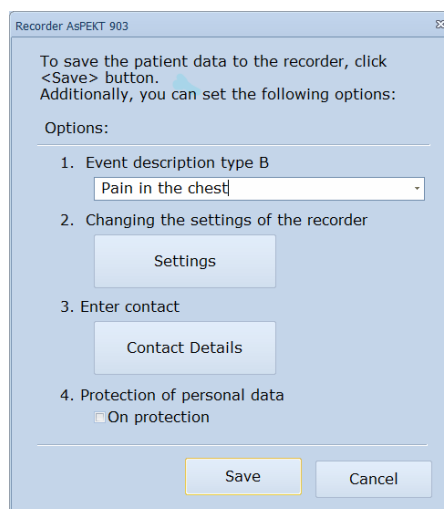

Figure 14. AsPEKT 903 Configuration
- Set the required parameters in the window that will pop up – see Figure 14